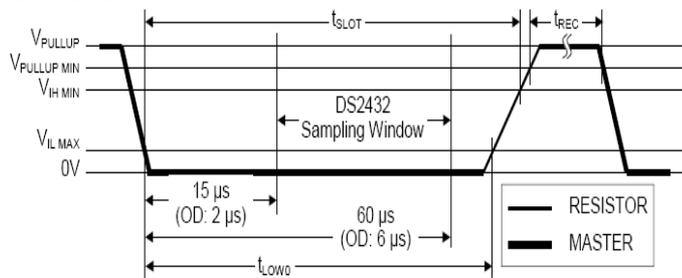

Fig4-98 - Write-zero Time Slot
- (1) To initialize Write Data, Master will convert the Data Line from the high logic to the low.
- (2) There are two types of Write time slot: Write 1 time slot and Write 0 time slot.
- (3) During a write cycle, all Write time slots must have duration of at least 60µs and a recovery period of 1µs.
- (4) When the I/O line goes down, Slave devices create samples from 15-60 µs.
- A. Write 0: If the sampling is low, 0 is generated as in Fig4-98: